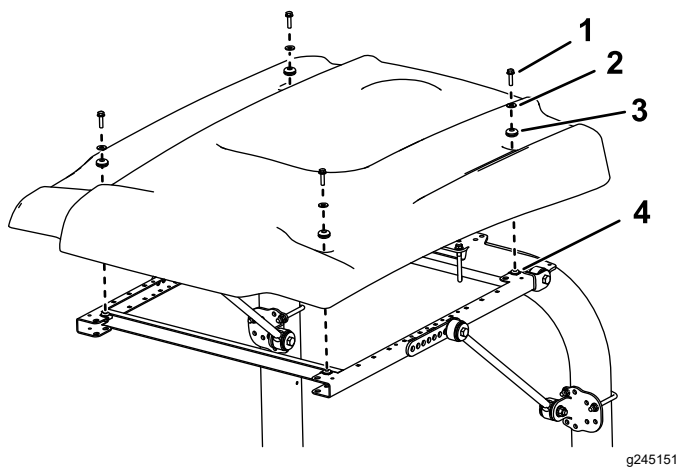

Figure 41
15. While aligning the mounting holes, position the sunshade onto the frame as shown in Figure 41.
16. Loosely mount each corner of the sunshade to the frame with a flange-head bolt (5/16 x 1-1/4 inches), a small washer, and a grommet (Figure 41).